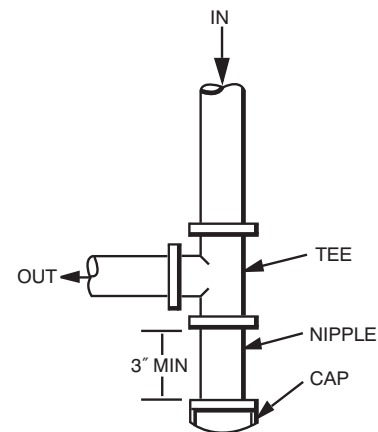

Fig. 10 – Sediment Trap
4. Install sediment trap in riser leading to heating section (See Fig. 10). This drip leg functions as a trap for dirt and condensate.